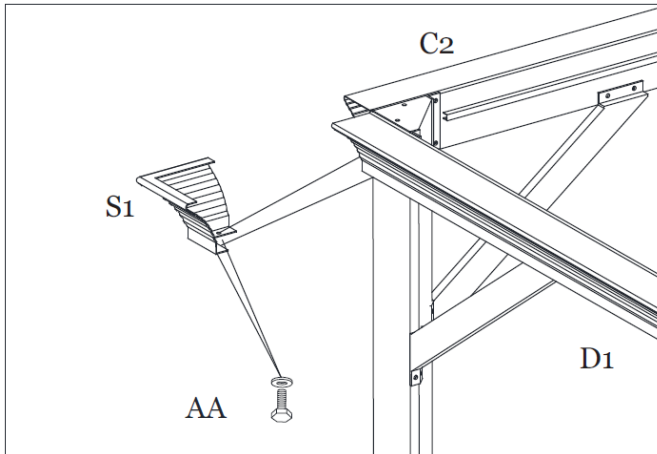

Figure 5-1
Step 5A: Attach Corner Lintel Cover (S1) to Long Lintel (D1) and Short Lintel (C2) with Bolts (AA). Repeat for all corners. **Tighten all Bolts.** See Figure 5-1.